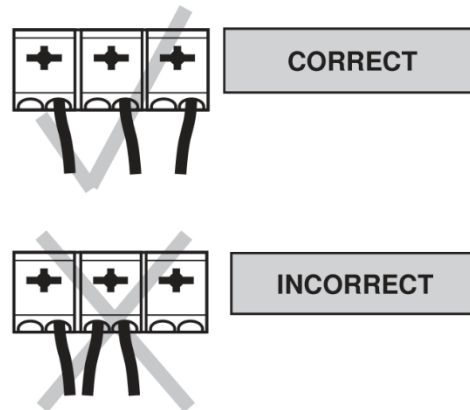

Figure 18 — Terminal block wiring
7. Push in the button on the terminal block and then insert each wire into the corresponding terminal. See Figure 18.